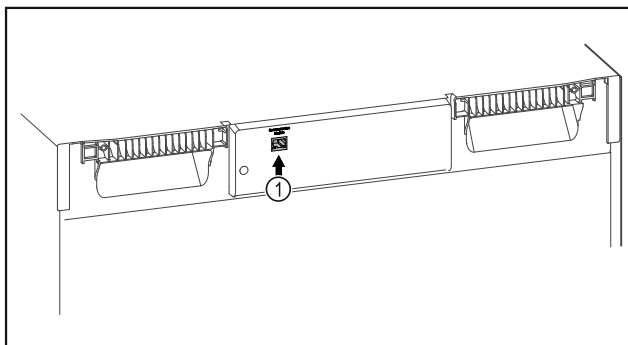

Fig. 72
- ❑ SmartModule Fig. 72 (1) is in use.